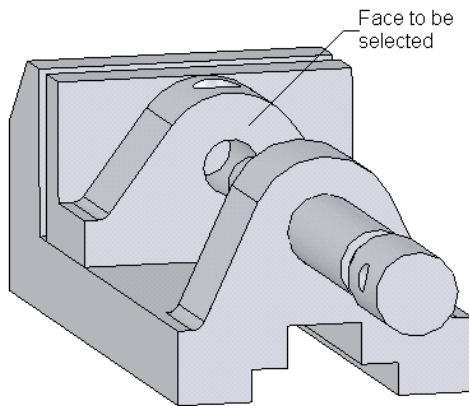
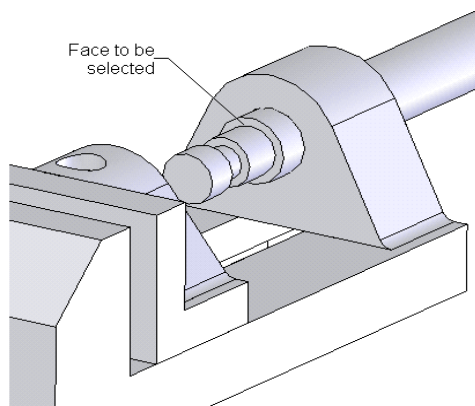

Figure 10-63 Face to be selected
Figure 10-64 Face to be selected
8. Rotate the model and select the face of the vice jaw as shown in Figure 10-63. Next, select the face of the jaw screw as shown in Figure 10-64.